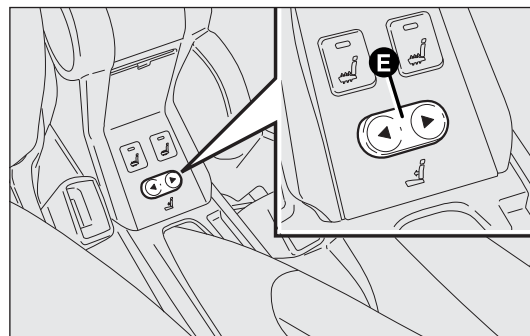

fig. 31
**Electric lumbar support adjustment fig. 31